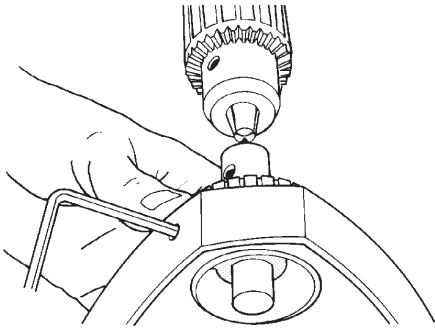

Figure C-75
- To adjust the cup center point **horizontally**, loosen the set screw that locks the adjustable center, see Figure C-75. Rotate the adjustable center as needed to line up the cup center with the drill chuck, then tighten the set screw.